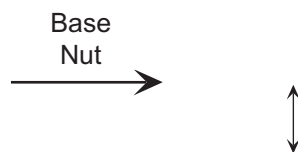

figure 2
1. Turn Bypass to the "Bypass" Position. (see diagram on page 8, figure 2)
8. With the system off of the plumbing, you can loosen the base nut to remove the valve from the media tank. see figure 2
1. Place the new control valve over the base connection, insert the connection fitting into the base. *see page 16 figure 2*